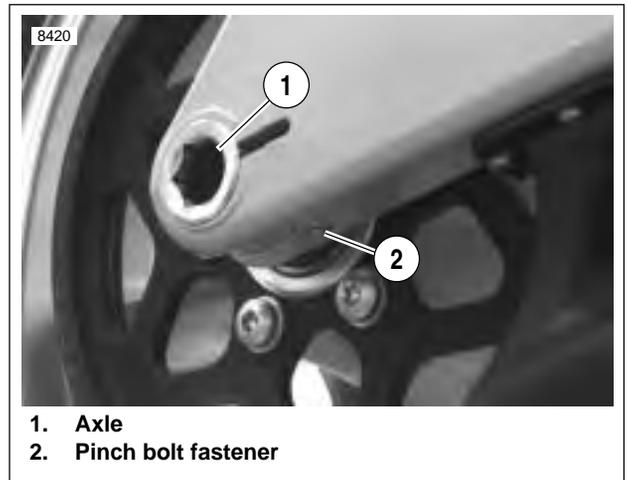

Figure 6-99. Rear Wheel Mounting, Right Side
17. See Figure 6-99. Tighten rear axle (1) to 23-27 ft-lbs (31.2-36.6 Nm), back off two full turns and then retighten to 48-52 ft-lbs (65.1-70.5 Nm).
18. Tighten pinch fastener (2) on right side of swingarm to 40-45 ft-lbs (54-61 Nm).